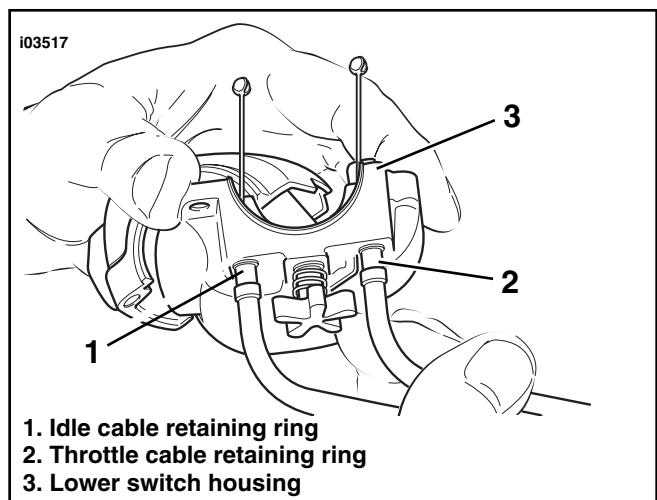

Figure 10. Install Cables to Lower Switch Housing
31. See Figure 10. Push the throttle-cable housing and retaining ring into the larger hole in the switch housing, in front of the tension-adjuster screw.